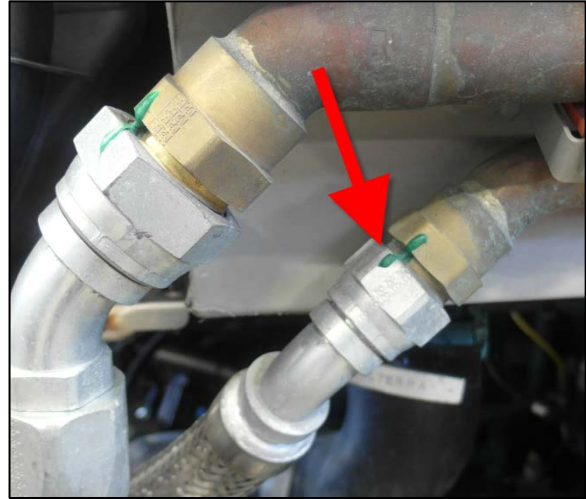

Figure 13
21. Remove the torque seal marks on all fittings and add new marks (Figure 13).